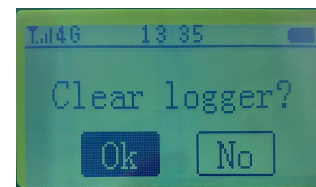

Figure 5
--Manual Clear - Confirm to clear the log (clear the running data of the recorder) as shown in Figure 5